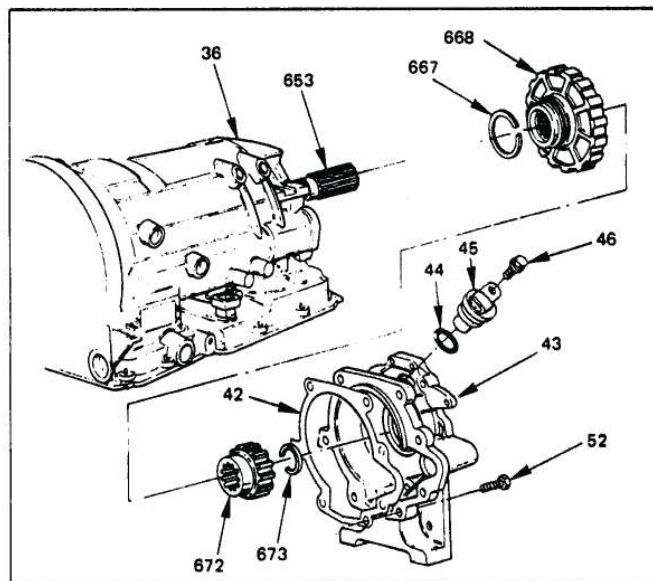

Figure 29
- NOTE: The 4 wheel drive version is shown in Figure 29.
12. The 4 wheel drive version is similar to this procedure, and is shown in Figure 29.